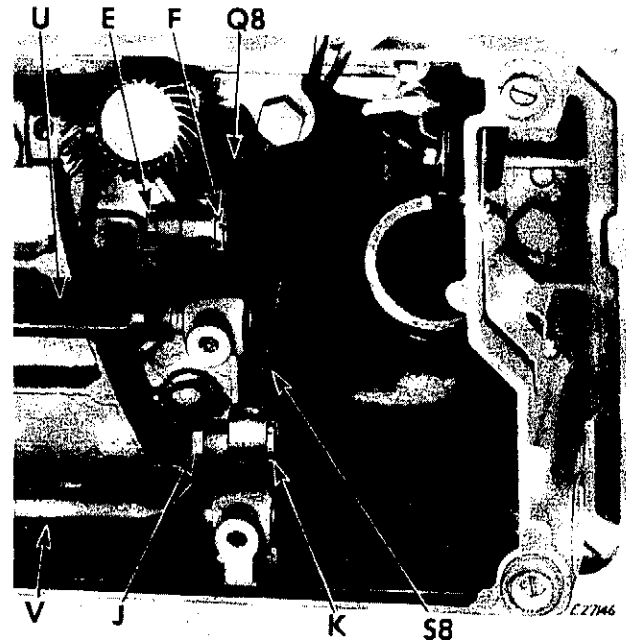

Fig. 318. Connections beneath Machine Bed
4. Remove nut **E** and eccentric stud **F**, **Fig. 318**, disengaging connecting rod **Q8** from feed lifting rock shaft **U**, **Fig. 318**.
1. Insert connecting rod **Q8**, **Fig. 318** into upright arm through bottom of machine, so that it fits around bottom half of gear hub on eccentric **Y2**,
3. Replace stud **F** and nut **E**, **Fig. 318**, engaging connecting rod **Q8** to shaft **U**.
3. Remove nut **J** and stud **K**, **Fig. 318**, disengaging feed forked connection **S8** from feed rock shaft **V**, **Fig. 318**.
2. Engage feed forked connection **S8** with feed rock shaft **V**, **Fig. 318** and fasten with stud **K** and nut **J**.